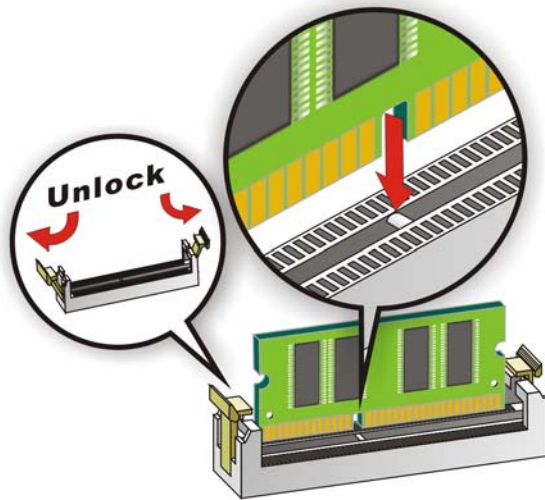

Figure 4-4: SO-DIMM Installation
To install an SO-DIMM, please follow the steps below and refer to **Figure 4-4**.
- Step 1: Open the SO-DIMM socket handles.** Open the two handles outwards as far as they can. See **Figure 4-4**.
- Step 2: Align the SO-DIMM with the socket.** Align the SO-DIMM so the notch on the memory lines up with the notch on the memory socket. See **Figure 4-4**.
- Step 3: Insert the SO-DIMM.** Once aligned, press down until the SO-DIMM is properly seated. Clip the two handles into place. See **Figure 4-4**.